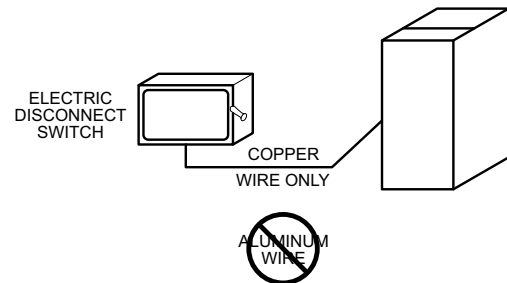

Fig. 33 – Field-Supplied External Electrical Box on Furnace Casing ^{A190279}
Do not connect aluminum wire between disconnect switch and furnace. Use only copper wire. See Fig. 33.
1. Drill two (2) 1/8-in. (3 mm) pilot holes through the dimples in the furnace casing near the 7/8-in. (22 mm) knockout or plug on the side of the casing. Do not remove the knockout or plug in the side of the casing.
3. Install two (2) screws through the outside of the casing to secure the J-Box bracket to the furnace casing.
9. Connect field power and neutral leads to furnace power leads inside the external electrical box as shown in Fig. 33.